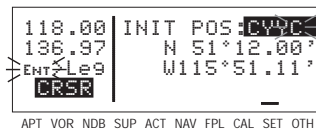

Figure 3-59
- Using the right inner and outer knobs, enter the identifier for the airport where you are presently located or the identifier of a navaid or other airport which is close to your present position (figure 3-59). Any waypoint in the data base which is within 60 miles is acceptable, but the closer the better. Remember, if you are entering an airport identifier that is all letters (no numbers), then it will begin with a "K" prefix in the contiguous U.S., a "P" in Alaska (in some cases; in others, the prefix is not added), or a "C" in Canada. If there are numbers in the identifier then a prefix is not used. Outside the contiguous U.S., Alaska, and Canada, use the airport identifiers as they are charted.